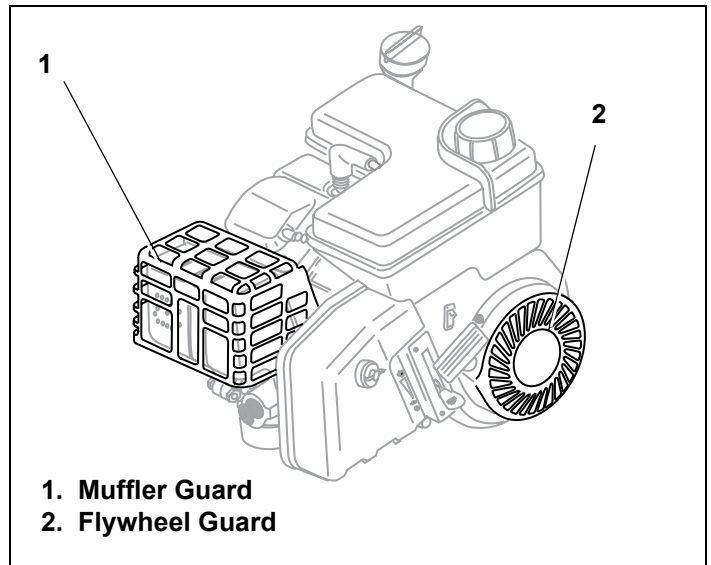

Figure 2. Typical Engine Guard Locations
The equipment manufacturer attaches a sprocket and chain or pulley and belt to the engine shaft. If these parts are not properly guarded, or if you are not sure whether they are properly guarded, DO NOT use your recreational vehicle; contact the equipment manufacturer. Hands, feet, hair, jewelry, clothing, etc. can become entangled in rotating parts, leading to serious injury or death. To avoid serious injury or death, be sure the flywheel guard is in place. See Figure 2.
- To avoid severe burns on contact, NEVER operate the engine without the muffler guard in place, see Figure 2 and avoid hot areas of the engine.